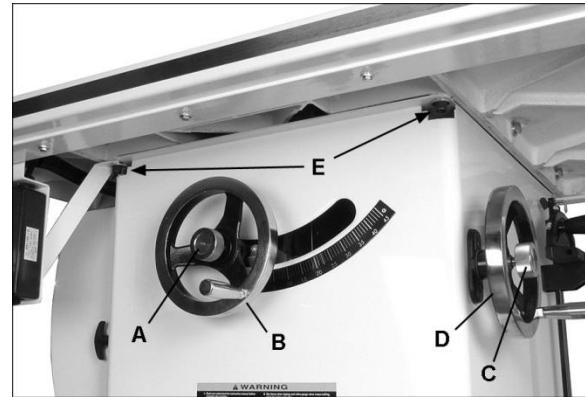

Figure 17
- To raise or lower saw blade, loosen lock knob (A, Figure 17) and turn handwheel (B) on the saw front until desired height is reached. Tighten lock knob. Blade should be adjusted no more than 1/8" to 1/4" above top surface of material being cut.
- To tilt blade, loosen lock knob (C, Figure 17), turn handwheel on right of saw cabinet (D) until desired angle is obtained, then tighten lock knob.
7. If measurements are not equal, locate the four screws that hold table to cabinet (E, Figure 17).